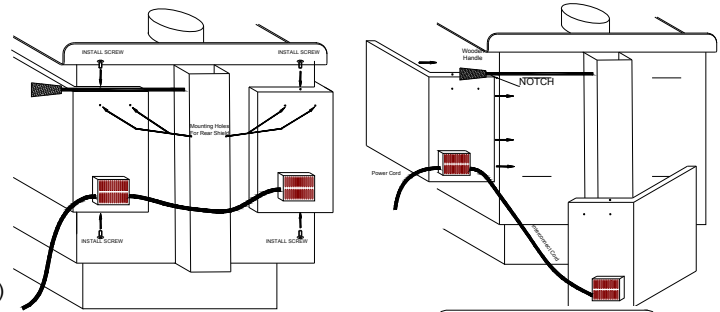

FIG. 36
2. **SET THE COMBUSTION AIR CONTROL LEVER.** Move the lever in the direction of the warmest setting, HIGH. See Fig. 36.